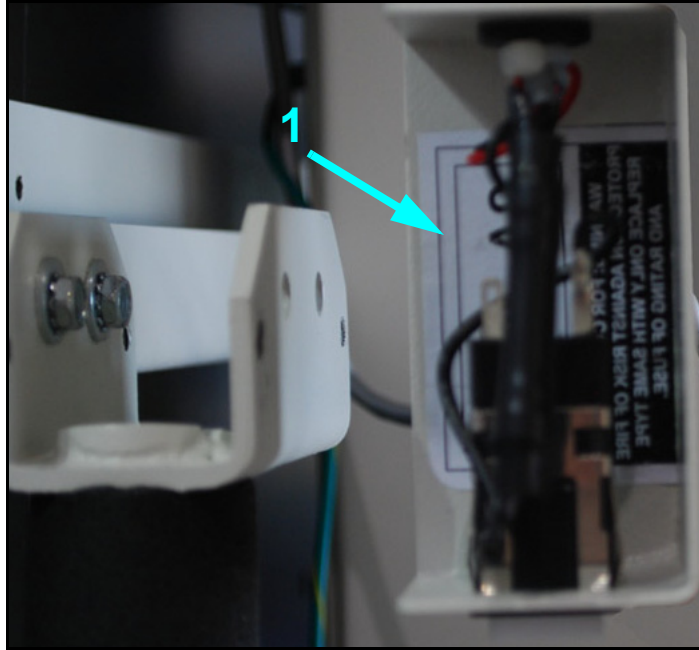

Figure 5-20. Brake Lock on Column
- 19** Attach the brake lock to the brake handle (1 in Figure 5-20).